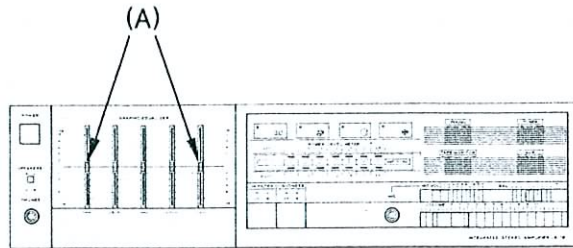

Fig. 1
2. Pull out GRAPHIC EQUALIZER Volume Knobs (A). (Fig. 1)